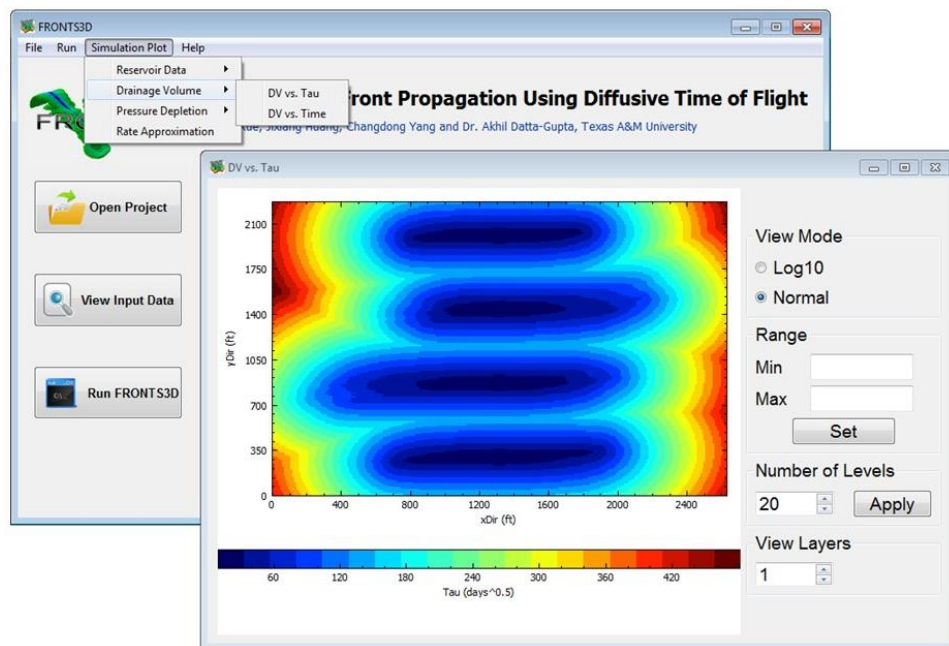

Figure 8. Select and View Drainage Volume
- Click Simulation Plot → Drainage Volume, you can view DV vs. Tau or Time. **(Figure 8)**.